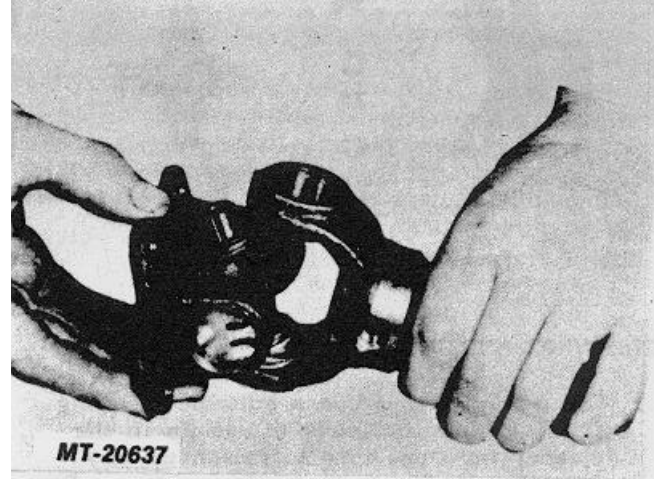

Fig. 26
4. **JOURNAL CROSS** -Remove by sliding it to the side of the yoke and tilting it over the top of the yoke lug (Fig. 26).